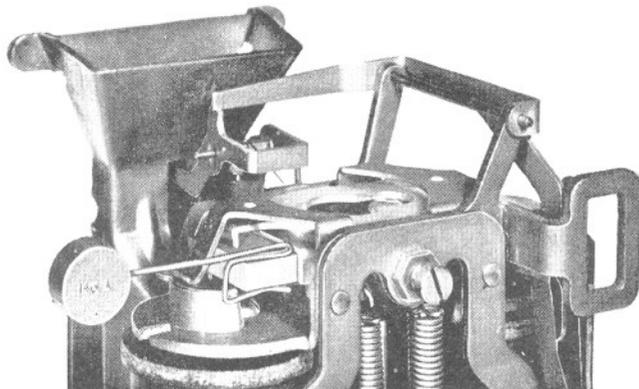

FIG. 5 — BIAS MARGIN TEST
5.03 The relay shall operate in the collect and in the refund direction against the torque of a 146A gauge attached to the armature (see Fig. 5) with appropriate coin battery applied. Coin trigger shall restore. Proceed with test as follows: